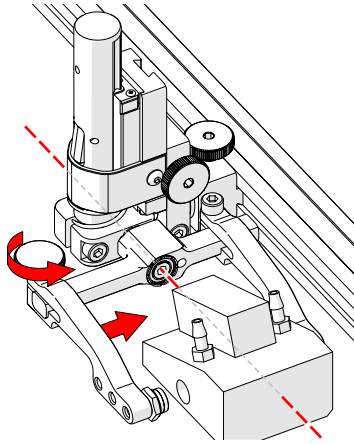

Fig. 63 - Adjust outer arm
5. Loosen the probe holder arm adjustment knob (Fig. 63) and slide the probe holder arm along the yoke pinching the wedge in place.